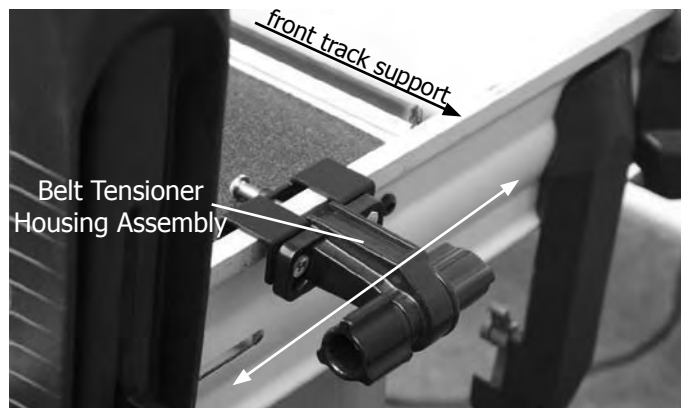

Fig. 6-C
**6-1.** Slide the Belt Clamp Assembly (assembled in Step 3) over the Left or Right Frame Side, toward the front track support. Finger tighten the M6 x 25mm Socket Button Head Cap Screw. You will adjust this later, after your carriage is on the frame. (See Fig. 6-A and 6-B).